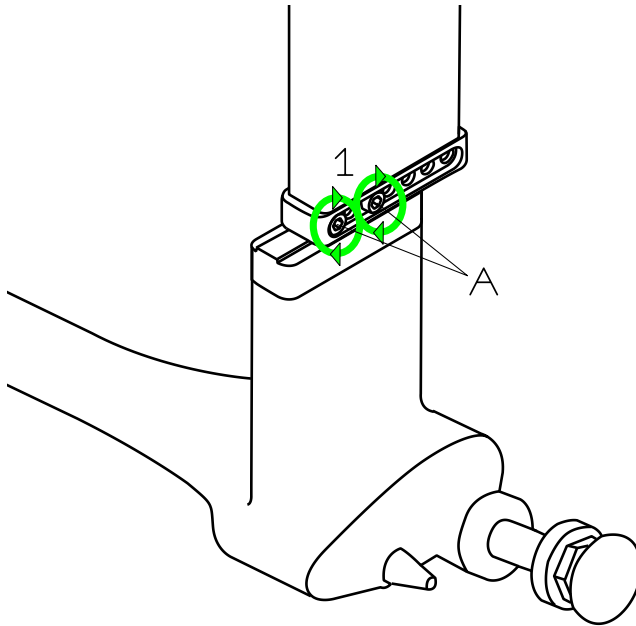

Figure 2.2
- Re-tighten the two Allen (Hex) screws on both sides of the wheelchair once the adjustment has been made (Fig 2.2, A)